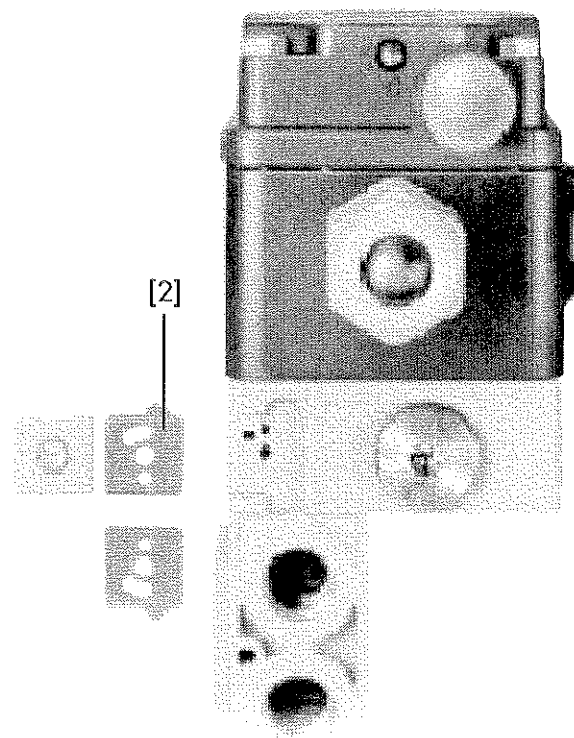

Fig. 11
2. Turn flat gasket [2] by 180°. The **tab** of flat gasket [2] is then placed in cutout "9" of the connecting plate (Fig. 11).